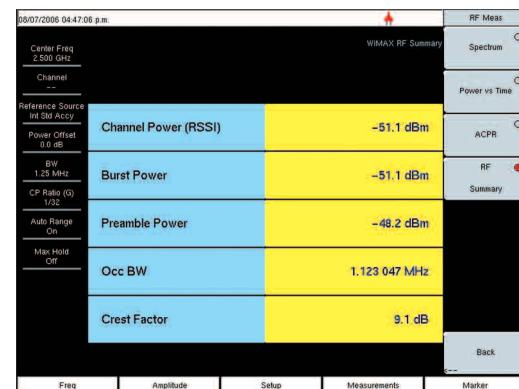

Figure 7. RF Summary view.
2. Press the RF Summary soft key to activate the measurement. The red dot on the soft key indicates it is selected (Figure 7).